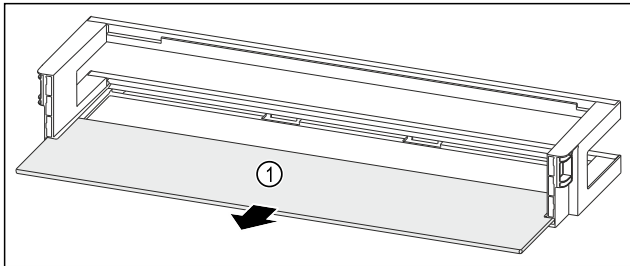

Fig. 118 Door rack with shelf
- ▶ Remove the shelf Fig. 118 (1).